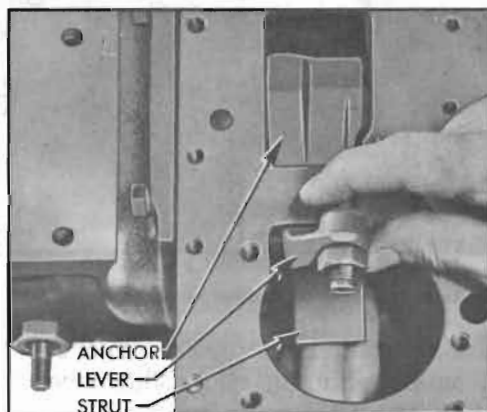

Figure 5-32—Removing Reverse Band Operating Strut
9. Remove the reverse band operating strut by extending fingers through the adjustment hole to prevent strut from falling into transmission case then release the strut by raising the operating lever. See figure 5-32.